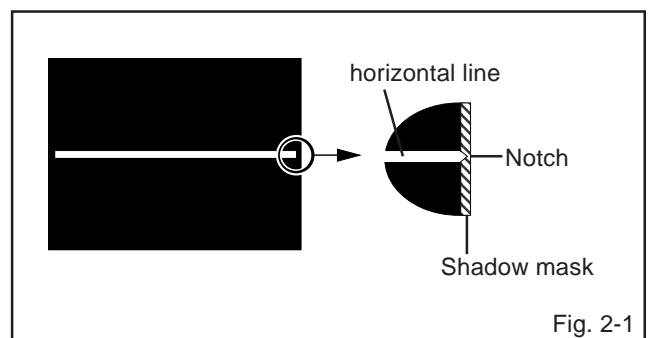

Fig. 2-1
3. Adjust the VR401 until the horizontal line becomes fit to the notch of the shadow mask. (Refer to Fig. 2-1)